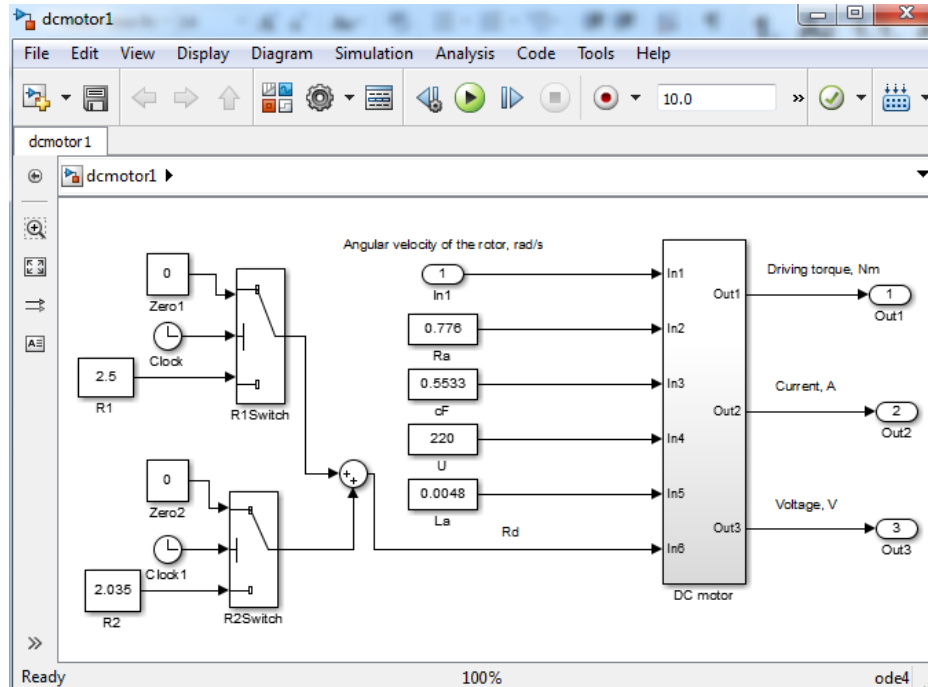
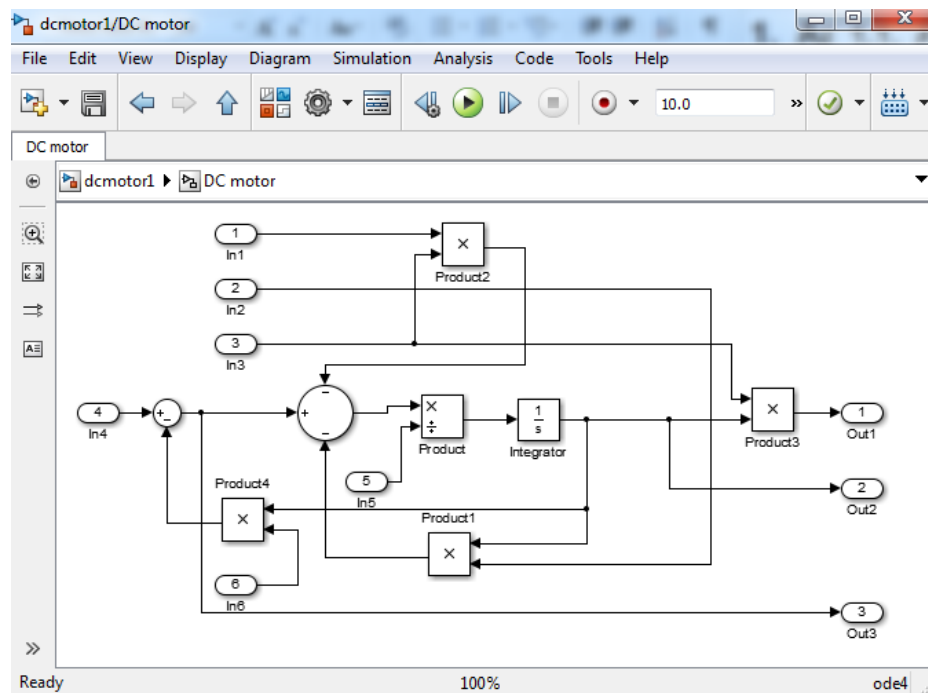

Figure 3.11. DC motor in Matlab/Simulink
Figure 3.12. DC motor subsystem
Matlab/Simulink model of a DC motor has one input – angular velocity of the rotor and three outputs: (1) electromagnetic moment, (2) current and (3) voltage (V) in the anchor circuit. Screen shots of the DC motor are given in Figure 3.11 and Figure 3.12.